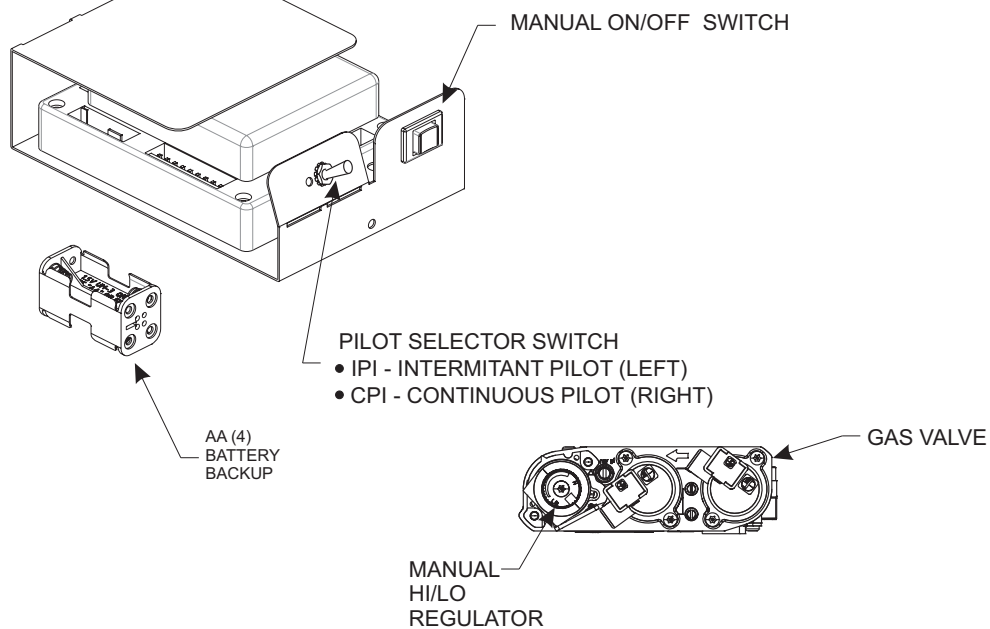

Figure 3
**NOTICE:** A small toggle switch is located on the front of the module tray that is used to switch from IPI (left) to the CPI (right). **See Figure 3.**
**NOTICE:** The gas control has a manual HI/LO flame adjustment knob (regulator) that allows you to increase or decrease the height of the burner flame. **See Figure 3.** Rotate the HI/LO knob counterclockwise to "HI" to increase the flame height, and clockwise to "LO" to decrease the flame height.